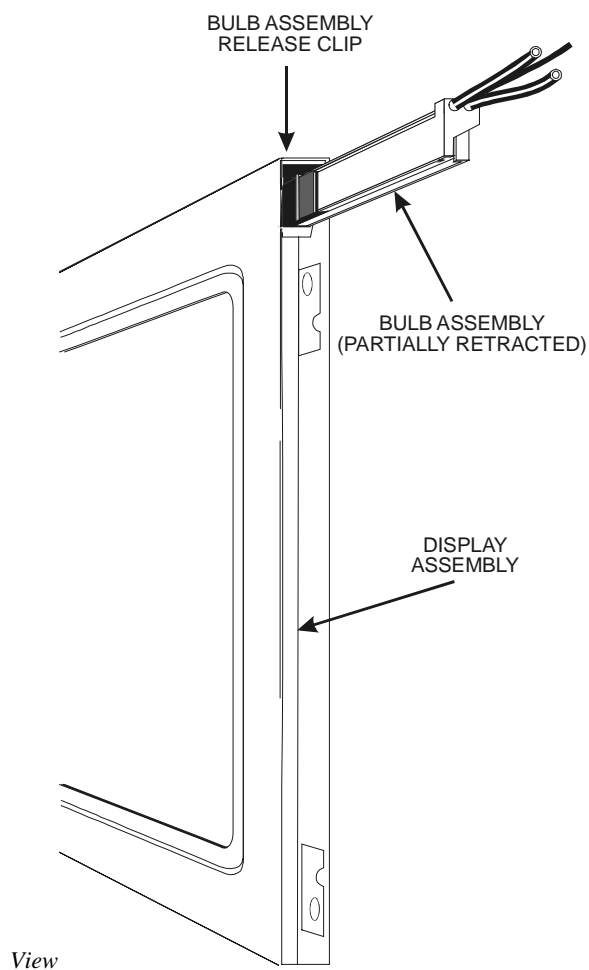

Figure D- 3. Model #AA121SK12 Bulb Assembly
11. Referring to Figure D-3, insert a flat-bladed screwdriver between the bulb and the clip and slide the bulb assembly out.
12. Referring to Figure D-3, unscrew the setscrews that secure the bulb assemblies and slide the bulb assemblies out of the display.